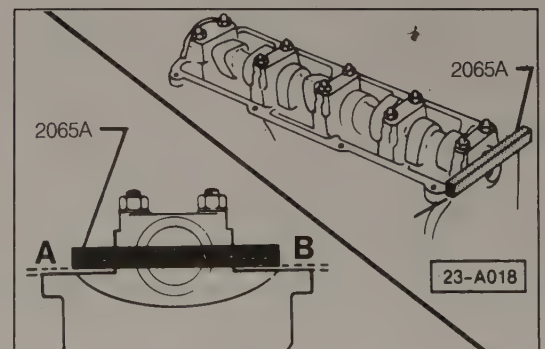

Fig. 5-11. Volkswagen special tool no. 2065A used to hold camshaft position. Shim tool at **A** and **B** with feeler gauges of equal thickness, until there is no play.
4. Lock the camshaft in position. Fig. 5-11 illustrates the use of a Volkswagen special tool, no. 2065A, inserted in the slot at the end of the camshaft to hold it in position.